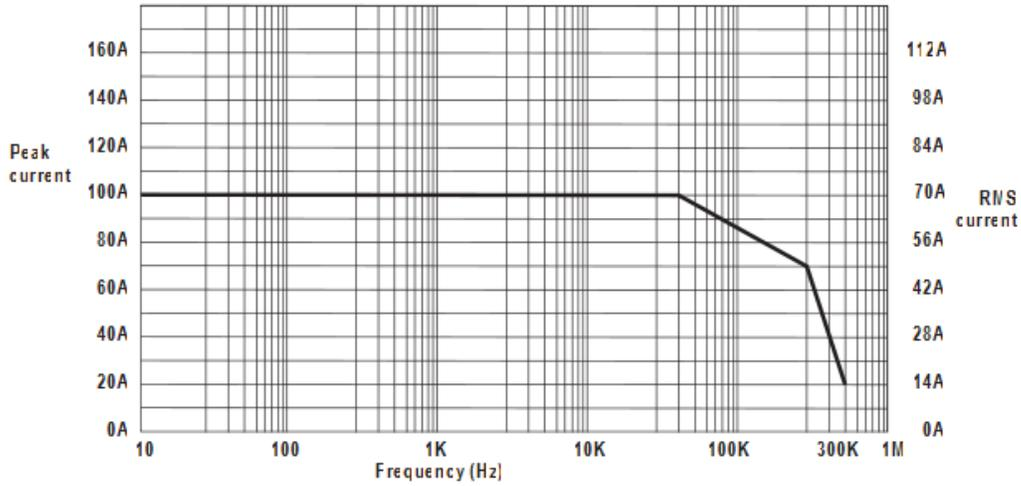

Figure 2: Maximum current versus frequency
*See Figure 2 for frequency derating.